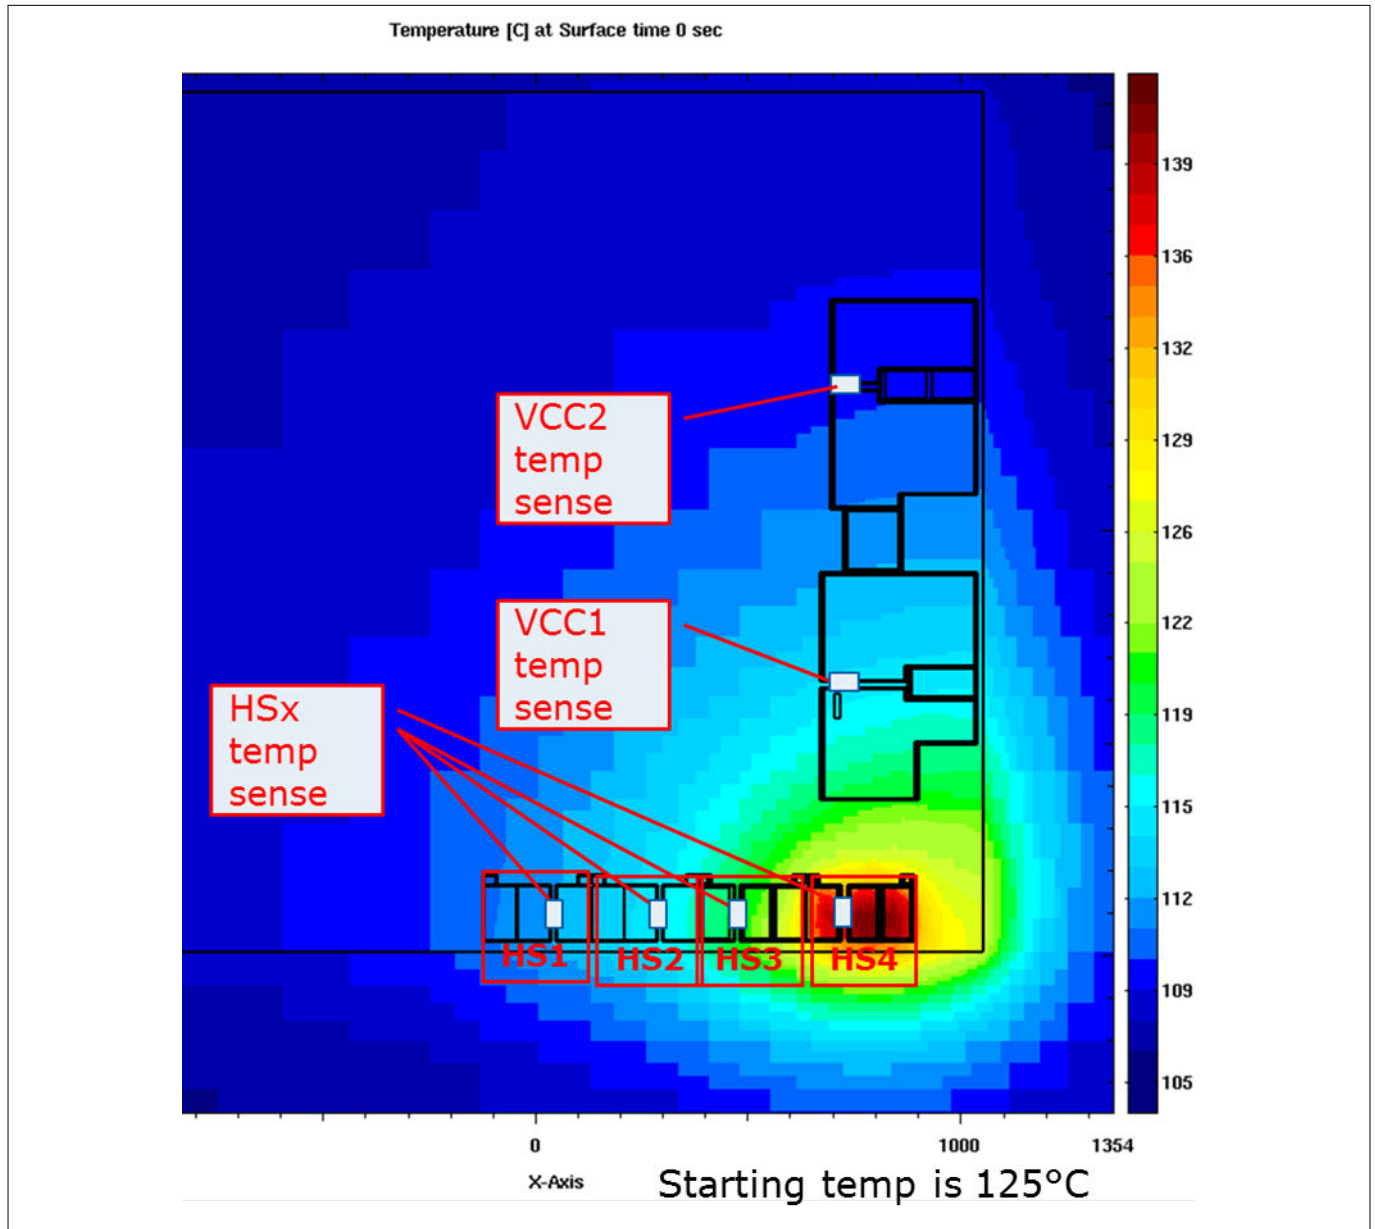

Figure 25 Heat distribution around HS switches
- The HS switches are thermally coupled on the silicon (see Figure 25 with simulation results of layout).